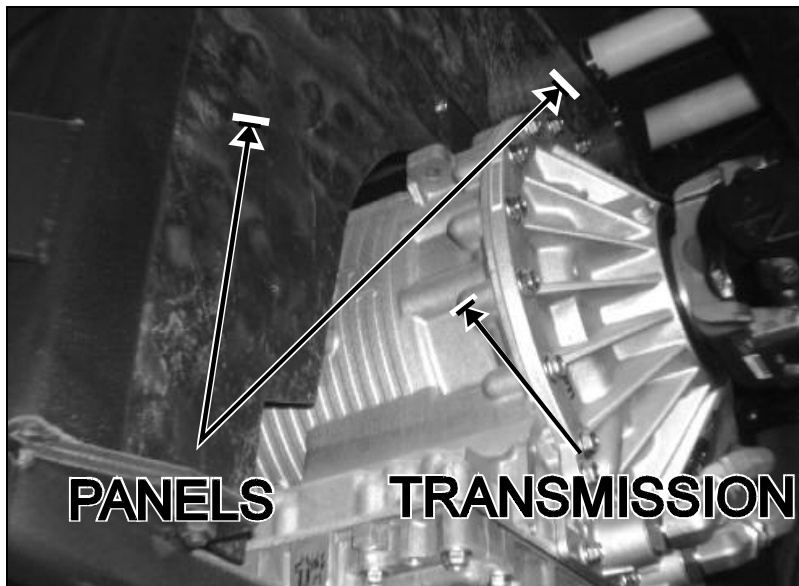

FIGURE 5: PANELS IN FRONT OF TRANSMISSION
9. If your vehicle has a retarder or a manual transmission, take place in front of the transmission, in empty space and locate front panels (Fig. 5). Remove one panel to access electrical conduits.
4. If your vehicle has a retarder or a manual transmission, take place in front of the transmission, in empty space and locate front panels (Fig. 5). Remove one panel to access electrical conduits.